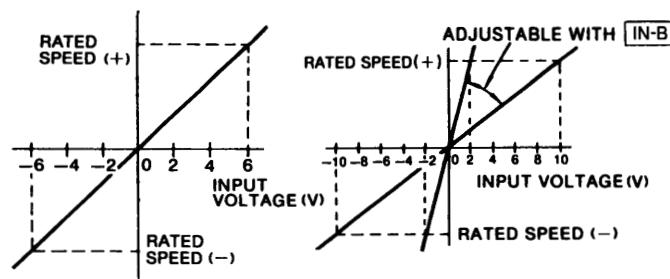
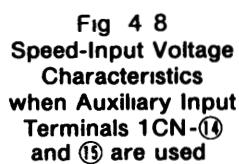

Fig. 4.7
Fig. 4.8
Fig.4.7 shows motor speed and input voltage curve when speed reference input terminals 1CN - ⑫ and ⑬ are used. With auxiliary input terminals, 1CN - ⑭ and ⑮, motor speed can be set to the rating by adjusting [IN-B] potentiometer as long as input voltage is within $\pm 2V$ to $\pm 10V$. See Fig. 4.8.